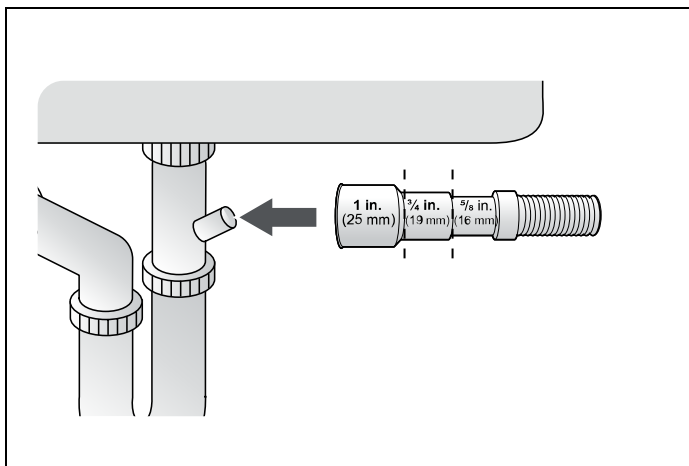

Fig. 18
3) Check the size of the sink drain hose connector. If needed, cut the drain hose so its end fits onto the sink connector (5/8", 3/4" or 1" - as shown in Fig. 18 ). If the end of the drain hose does not fit onto the drain hose connector of the sink, use an adapter purchasable at a plumbing/hardware supply store.